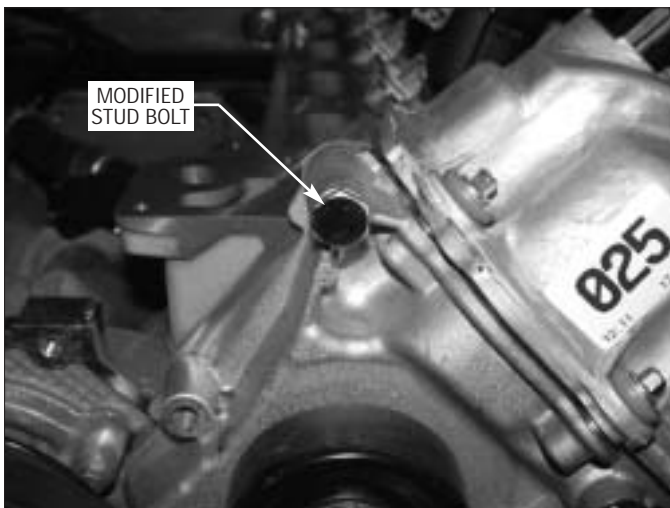

Fig. 1-m
- R.** Using a 15mm socket or wrench, remove the nut that secures the capacitor resistor and coolant hose support bracket to the stud bolt. Using an 18mm socket or wrench, remove the stud bolt. As seen in *Fig. 1-j*, the upper bolt is removed from the timing chain cover. This bolt will have to be modified by cutting off the threaded end where the resistor attaches. Modify and reinstall the bolt. (See *Fig. 1-m*.)